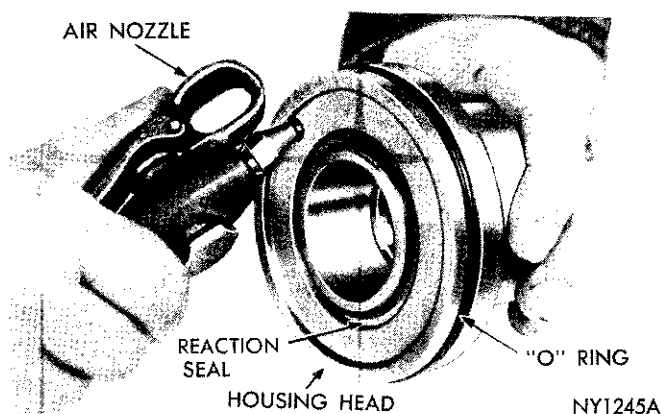

Fig. 15—Removing Reaction Seal From Worm Shaft Support
(13) Remove reaction seal from groove in face of housing head with air pressure directed into ferrule chamber (Fig. 15).
(14) Inspect all grooves for burrs. Make sure passage from ferrule chamber to upper reaction chamber is unobstructed.
(15) Remove reaction spring, reaction ring, worm balancing ring and spacer.
(16) Hold wormshaft from turning, then turn nut with sufficient force to release staked portions from knurled section and remove nut.